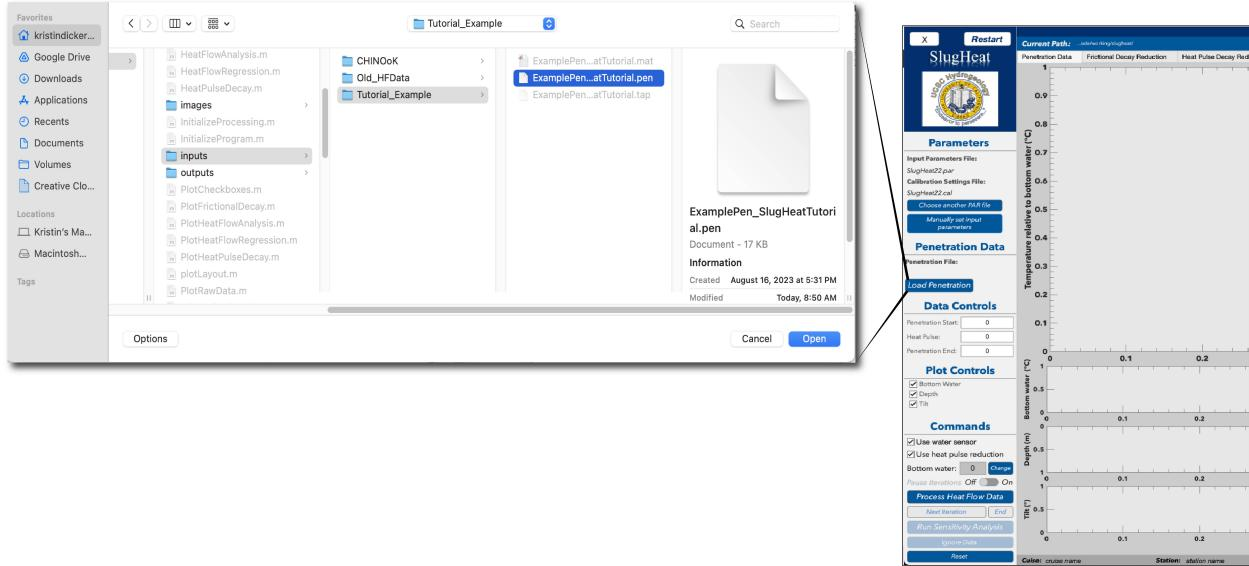

Figure 4: *SlugHeat* example pop-up window to select a PEN file that will be used to load the penetration into the program.
Though PEN, TAP, and MAT files are all created in *SlugPen*, the minimum requirement for processing data in *SlugHeat* is a PEN file or a MAT file. *SlugHeat* will first ask you to select a PEN file that defines the penetration. Corresponding TAP and MAT files for that penetration will also be loaded in automatically if they exist in the same directory. If they do not exist, *SlugHeat* can still process temperature data recorded by a PEN file alone. In this example, penetration ExamplePen_SlugHeatTutorial is loaded using PEN, TAP, and MAT files (See Figure 4).
2. Select a **PEN file** in the pop-up window (Figure 4), which defines data from a single penetration.
- Note: If the PEN, TAP, and MAT files were created in the updated 2022 version of *SlugPen*, the power of the heat pulse (J), as recorded directly by the instrument, will be loaded in directly from the PEN